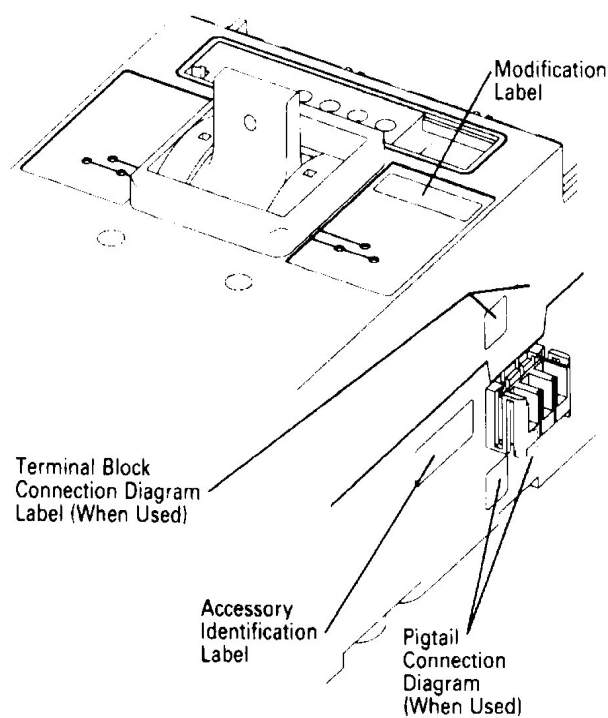

Fig. 2-5 Preferred Mounting Locations for Accessory.
- 2-8 Place accessory labels (supplied with kit) on circuit breaker. (See Fig. 2-5.)